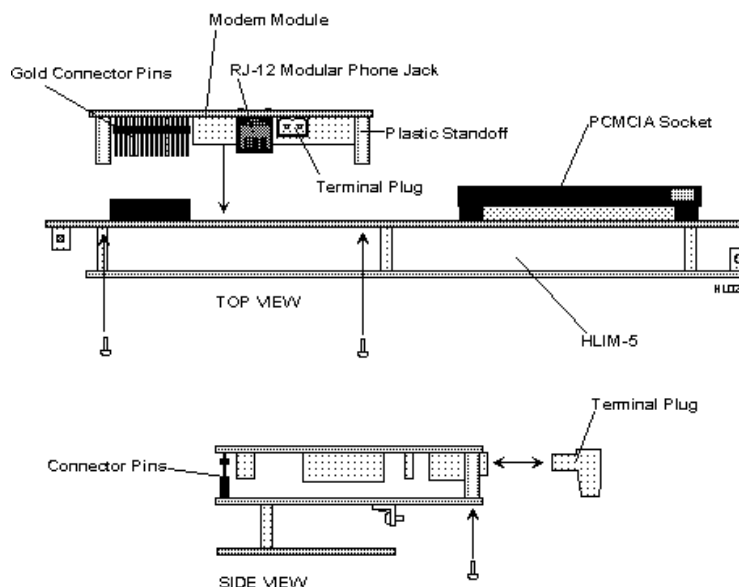

Figure 3... -25: Modem module installation onto HLIM-5
2. After discharging any static electricity in your body (see Interface Module Handling precautions at the start of this chapter), remove the MM-2400 from its static proof bag. Unplug the terminal strip plug and set aside. Orient the MM-2400 module as shown in Figure 3... -25, and plug the gold pins on the modem module into the mating black connector on the HLIM-5. Visually check that the pins are all in the connector.